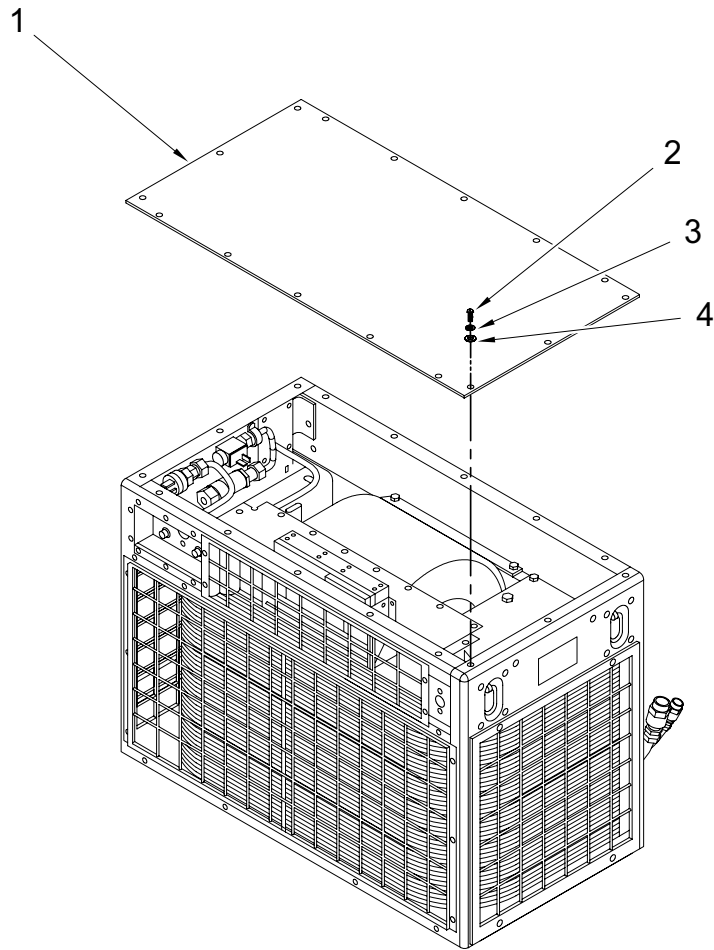

Figure 1. CONDENSER TOP COVER.
1. Check that covers are not bent, cracked, or punctured. Replace if damaged. See Figure 1
See Figure 1